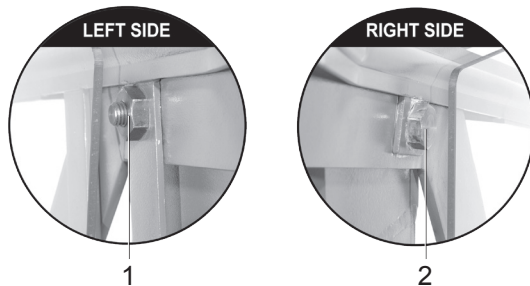

Fig. 12
- Loosen nut (Fig. 12/1) and screw (Fig. 12/2).
- Tighten screw (Fig. 12/2) to obtain just enough play.
- Lock with nut (Fig. 12/1).